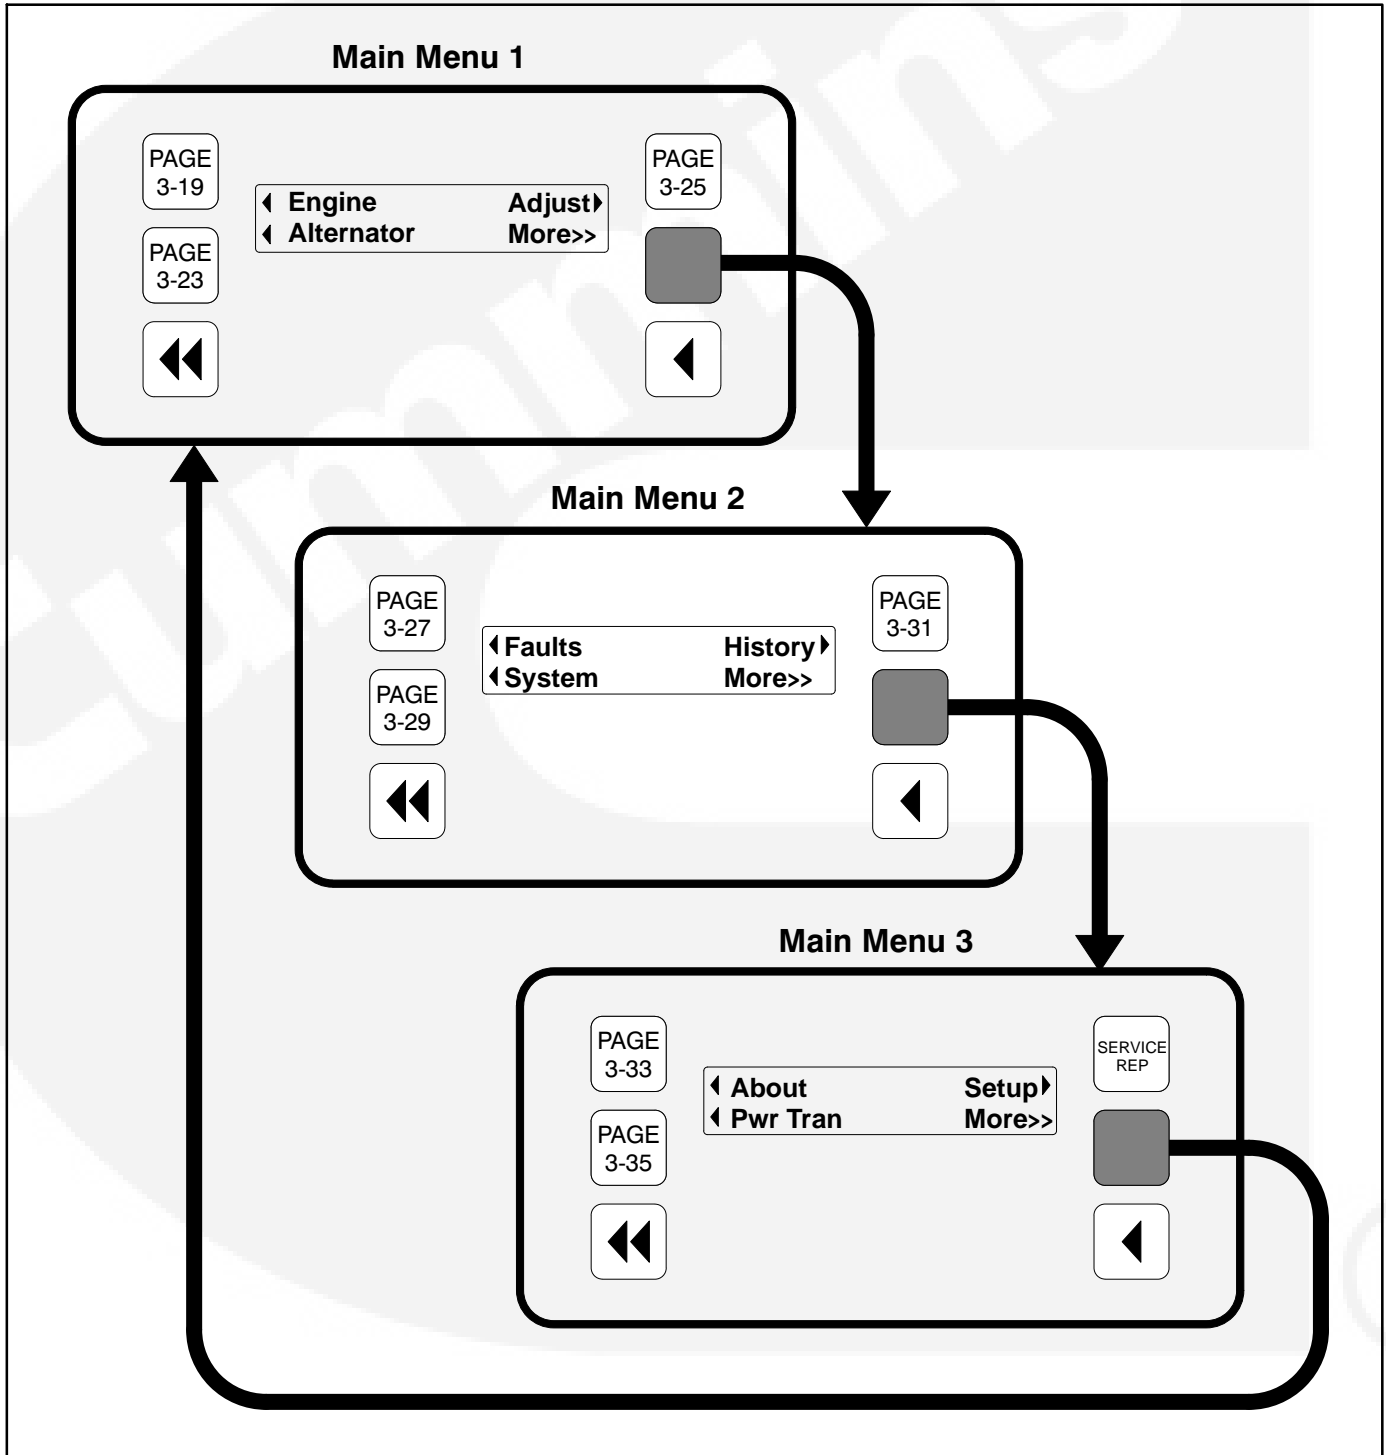

FIGURE 3-6. MAIN MENUS
- In the digital display for main menus (Figure 3-6), the ◀ and ▶ symbols indicate that pressing the adjacent button causes the operating program to go to the selected submenu (e.g., Engine Menu in Figure 3-9).
- In the digital display, the More>> symbol indicates that pressing the adjacent button causes the operating program to go to the next main menu, as shown in Figure 3-6.
Home Button: Pressing this button causes the operating system to show Main Menu 1 (Figure 3-6) in the digital display.
Figure 3-6 shows the three major main menus available to the user. Figure 3-6 also includes references to pages in this section where you can find additional information on submenus. When viewing a submenu, you can press the previous main menu button at any time to view its main menu.